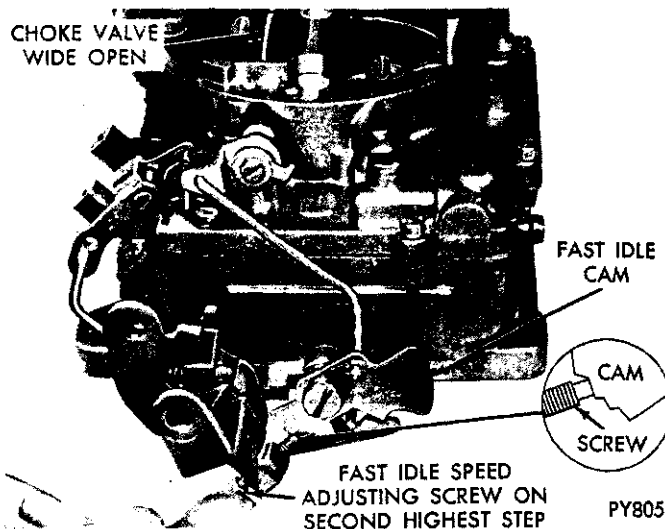

Fig. 20—Fast Idle Speed Adjustment (On Vehicle)
(1) With engine off and transmission in **PARK** or **NEUTRAL** position open throttle slightly.
(2) Close choke valve until fast idle screw can be positioned on the second highest speed step of fast idle cam (Fig. 20).
(3) Start engine and determine stabilized speed. Turn fast idle speed screw in or out to secure specified speed. (Refer to Specifications).
(4) Stopping engine between adjustments is not necessary. However, reposition fast idle speed screw on cam after each speed adjustment to provide correct throttle closing torque.